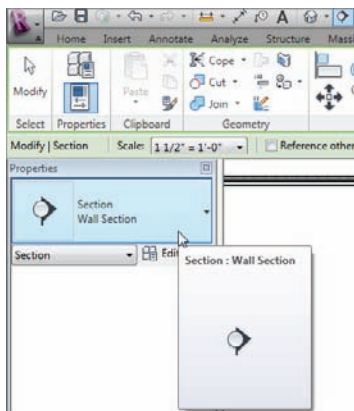

FIGURE 3.53 Changing the type of section from Building Section to Wall Section
3. In the Properties dialog box, select Wall Section, as shown in Figure 3.53.